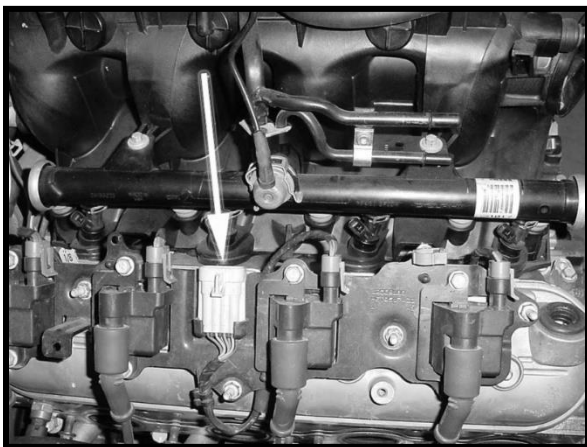

Figure 12 Driver Side Coil Connection
- This factory harness can be found on the coil mounting bracket located on the valve cover, see **Figures 12 & 13** below.